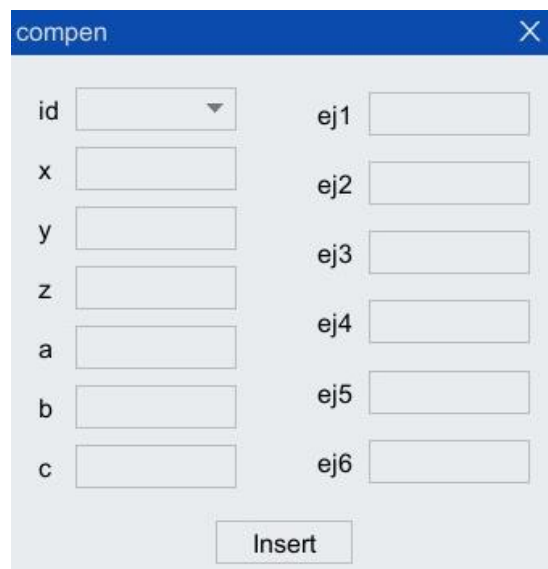

Figure 5-36 "Compen" Instruction configuration interface
Step1.Click "Insert Cmd > Motion Instruction > Tool Compensation > compen" in the toolbar of the program editor, and the [compen] instruction configuration interface as shown in Figure 5-36 will pop up.